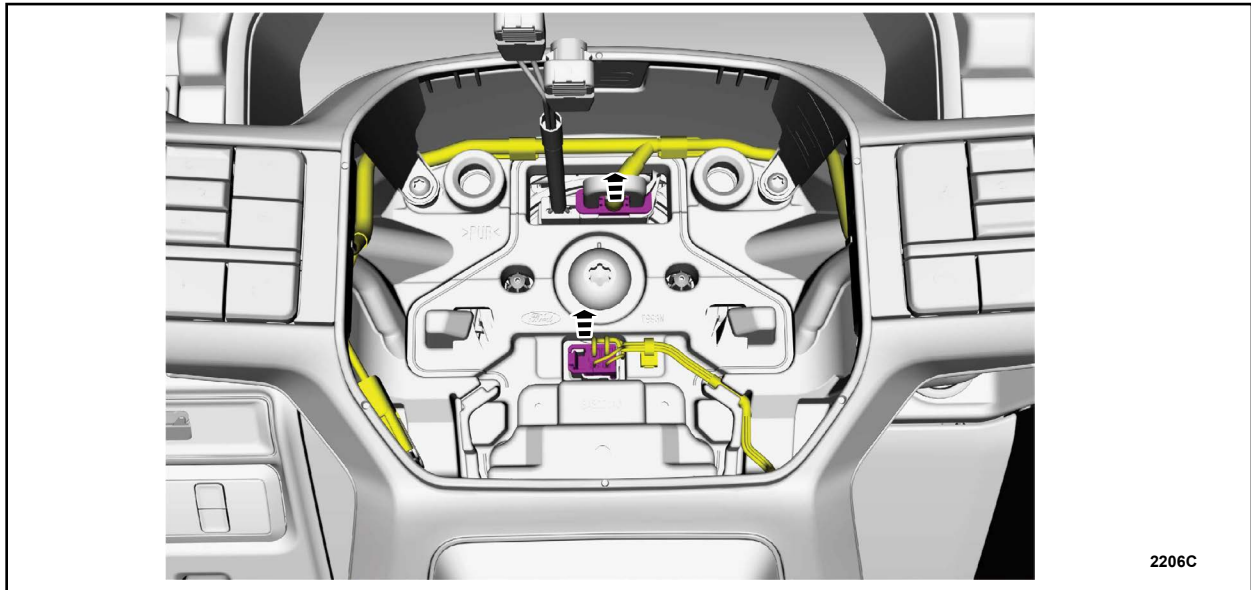

FIGURE 3
3. Disconnect the steering wheel electrical connector(s). See Figure 3.